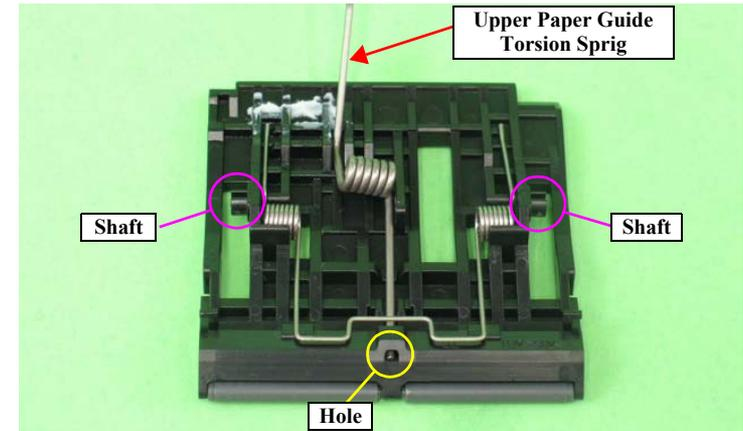

Figure 4-113. Installing the Upper Paper Guide Torsion Spring
- Lift the six Upper Paper Guide Assys from the Main Frame to release the shaft (See Figure 4-113), and remove the Upper Paper Guide Assys to the rear.